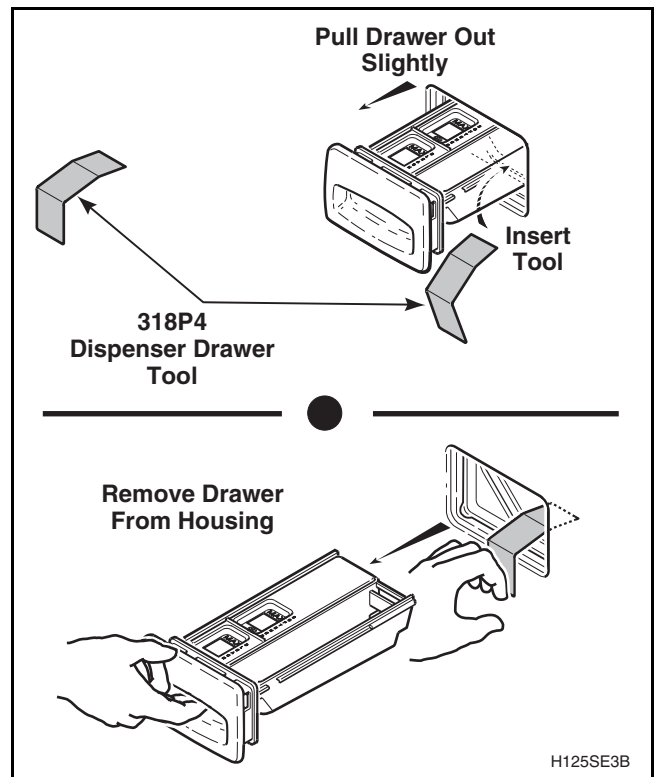

Figure 25
- Using the special tool, No. 318P4, remove dispenser drawer. Refer to *Figure 25*.